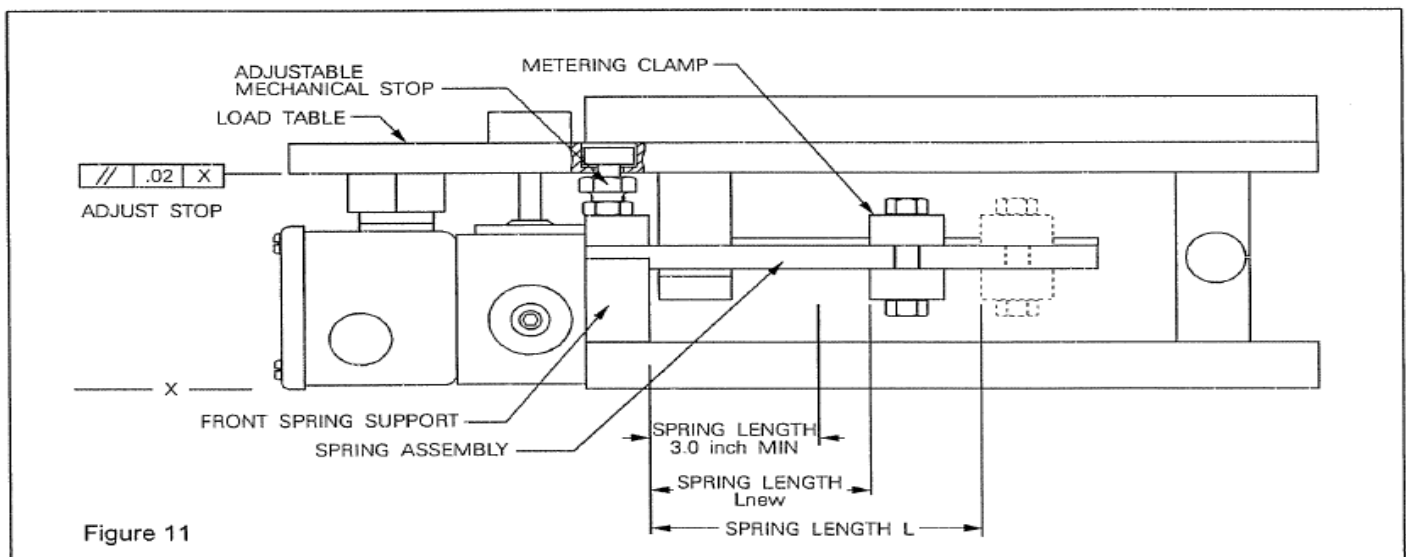

Figure 11
Loadcell recalibration involves changing the spring length which in effect changes the calibrated operating load capacity of the unit. This is accomplished by increasing or decreasing the spacing between the opposing faces of the front spring clamp and the metering blocks. (Refer to Figure 11)
3. Check that the load plate is parallel to the base plate ($\pm .020$). This in effect removes the tare weight acting on the load plate. Depending on the load capacity of the units and the applied tare weight, the load table may require the use of a prying or clamping device to force the load table parallel to the base plate, and blocking it to maintain the position. (Refer to Figure 11 before proceeding with Step 3a or 3b)